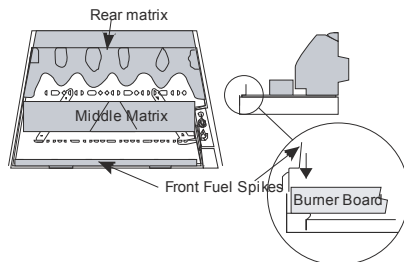

Figure 24
2. Place the **middle matrix** onto the burner board so that it keys into the triangular depression on the board (see **Figure 24**).
3. Insert the front fuel spike between the board and the front of the metal tray (see **Figure 24**).